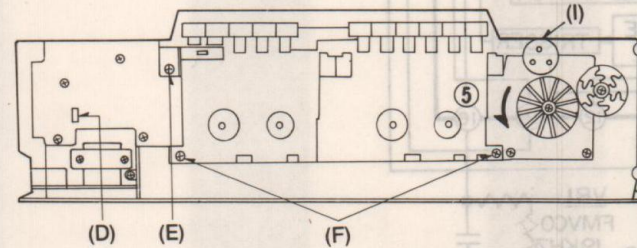

Fig. 2
2. Turn the variable capacitor drum all the way in the direction of arrow ⑤. (See Fig. 2)